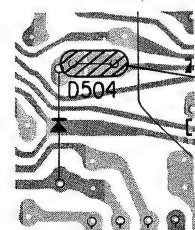

Fig. 3
1. Unsolder the hatched portion in Fig. 3 before starting the adjustment.